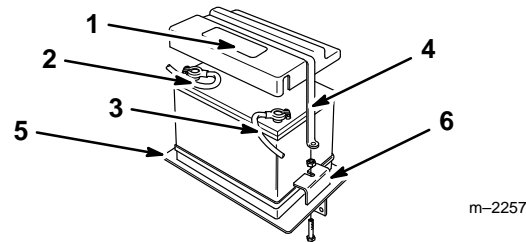

Figure 15
25. Set the battery onto mounting plate of the snowthrower. The battery posts should be positioned to the outside, not toward the fuel tank (Fig. 15).
26. Secure the black (negative) battery cable to the negative (-) battery post. Route the cable as shown in Figure 15, so the battery cover fits over the cable. Tighten the cable clamp.
27. Secure the red (positive) battery cable to the positive (+) battery post as shown in Fig. 15. Tighten the cable clamp.
28. Install the cover on top of the battery (Fig. 15).
29. Secure the battery to the mounting plate with capscrews, battery hold down clamps, and nuts (Fig. 15).
30. Install the decal on battery cover as shown in Figure 15.
31. Install the battery strap onto the battery cover and slide the mounting ends of the strap onto ends of the capscrews (Fig. 15). Secure all parts in place with two nuts.